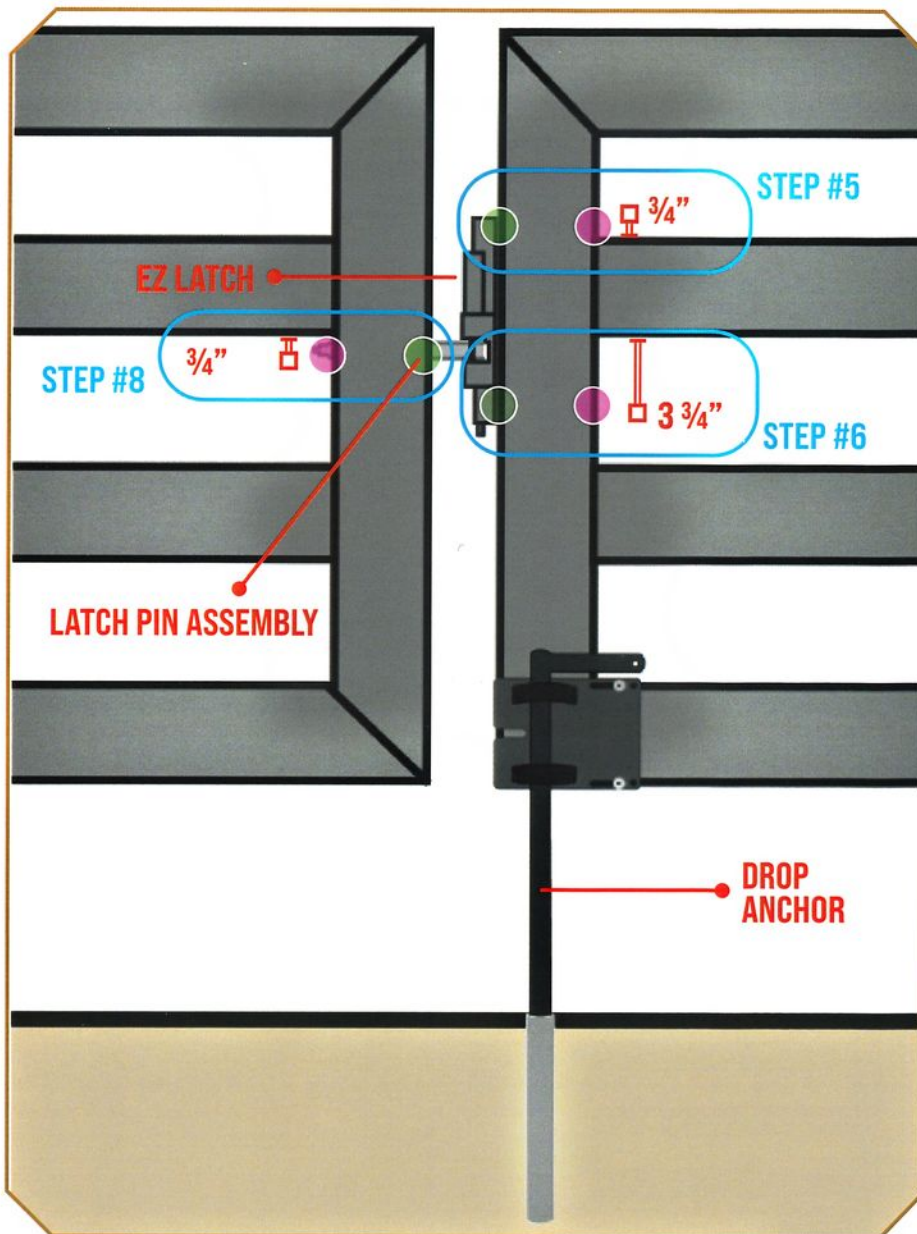

Figure 2
2. Drill three $2\frac{1}{32}$ " holes (1 hole on the pin-gate; 2 holes on the ground-anchor gate) using a step drill. Reference the pink circles on Figure 2 for placement.
3. Drill three $1\frac{3}{32}$ " holes on the outside face of both gates (1 hole on the pin-gate; 2 holes on the ground-anchor gate) using a step drill. Reference the green circles on Figure 2 for placement.